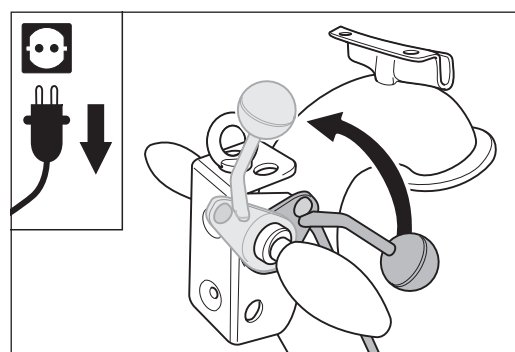

Fig. 52 Lift the sanding drum off the floor by turning the lowering lever at the handle upwards.
- 4 Lift the sanding drum off the floor by turning the lowering lever at the handle upwards (Fig. 52).